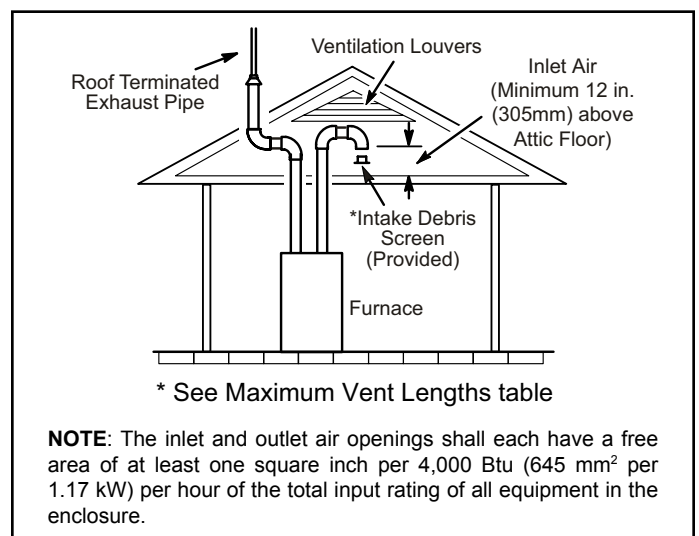
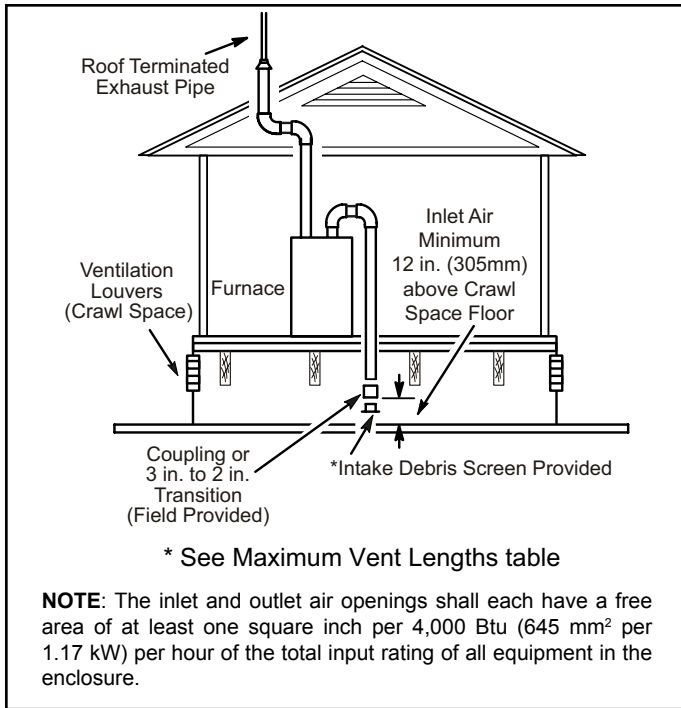

Figure 31. Equipment in Confined Space
Figure 32. Equipment in Confined Space (Inlet Air from Ventilated Crawl Space & Outlet Air to Outside)
2. If intake air is drawn from a ventilated attic (Figure 31) or ventilated crawlspace (Figure 32) the exhaust vent length must not exceed those listed in Table 5B or Table 6C. If 3" diameter pipe is used, reduce to 2" diameter pipe at the termination point to accommodate the debris screen.